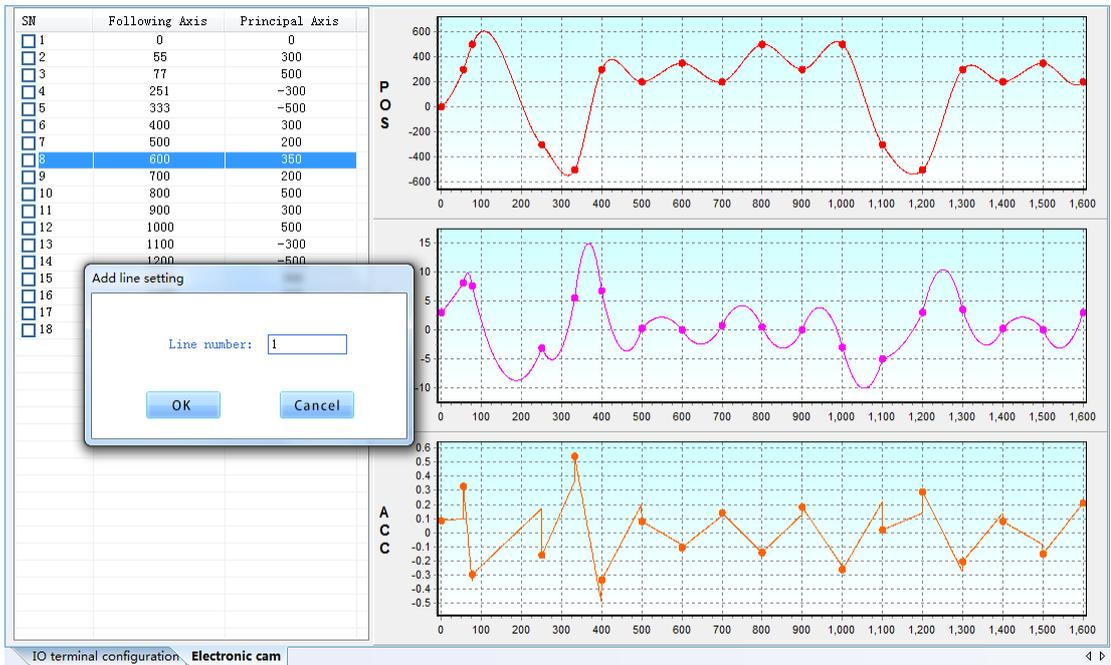

Fig 3-1-26 Electric cam add multi-row
**Add multi-row:** Add some rows in original list, click [OK]. (Fig3-1-26)